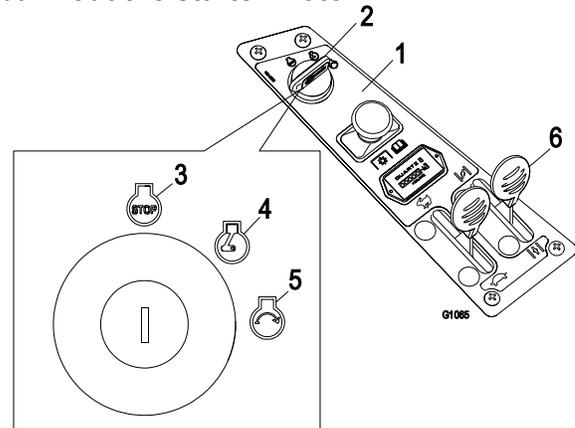

Figure 10
4. Turn the ignition key to Start to energize the starter. When the engine starts, release the key (Figure 10).
- If the engine stalls or hesitates, move the choke lever partially forward for a few seconds. (Figure 10).
- Turn the ignition key to Off (Figure 10).